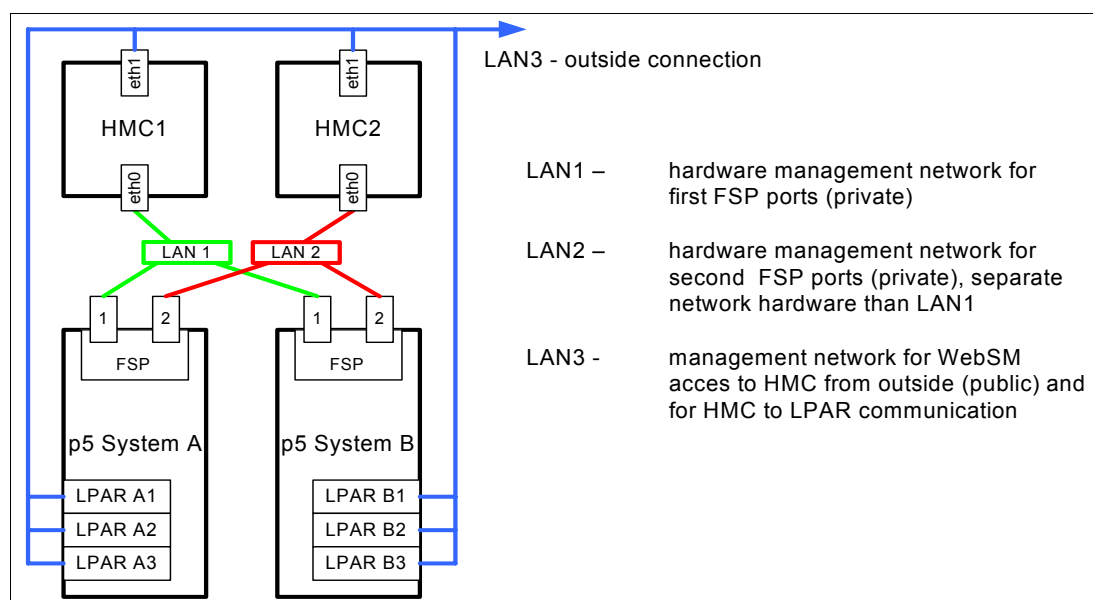

Figure 2-17 Highly available HMC and network architecture
POWER5 and POWER5+ processor-based systems have two service processor interfaces (HMC port 1 and HMC port 2) available for connections to the HMC. It is recommended to use both of them for redundant network configuration. Depending on your environment, you have multiple options to configure the network. Figure 2-17 shows one possible highly available configuration.
**Note:** In Figure 2-17, only hardware management network (LAN1 and LAN2) is highly available for simplicity. Management network (LAN3) can be made highly available by using a similar concept and by adding more Ethernet adapters to LPARs and HMCs.